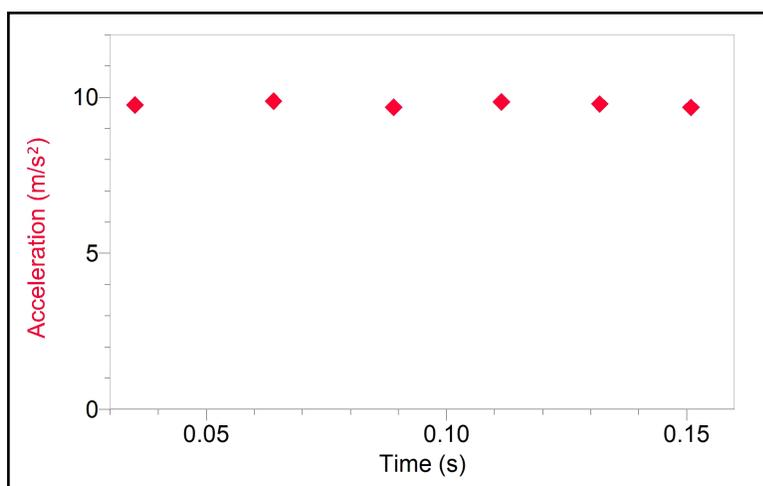

Figure 2 Graph of sample data scaled to include the origin
8. When the acceleration vs. time graph is selected, it is autoscaled, magnifying these variations. When the origin is included on the vertical axis, the data appear very consistent, as in the graph in Figure 2.